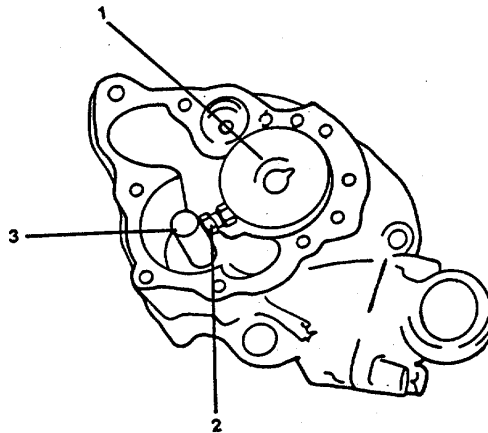

FIGURE 3-49. *Install the Guide Bushing into the Gear Pocket.*
- a. Check idler shaft (22) for damage. Replace if damaged.
- b. Check dowel pins (8) in the pump body (31) for damage. Use dowel puller P/N ST-1134 to remove damaged pins.
- c. Check drive shaft (30) for damage.
- e. Check pump body (31) for cracks, worn bushing threads or scratched gasket surfaces.
- f. Use bushing mandrel, P/N ST-1158, and push bushings (24, 28) from pump body (31), cover (23) and gears (25, 27 and 34).
- g. Use bushing mandrel, P/N ST-1158, to push new bushings (24, 28) into body (31), cover (23) or gears (25, 27 and 34). Bushings must be even with or 0.020 inch (0.51 mm) below surface of body (31), cover (23) or gears (25, 27 and 34).
- h. Use lubricating oil pump boring tool to cut the bore in the new bushings in the pump body (31).
- (1) Install the guide bushing (1, Figure 3-49) into the gear pocket. Tighten the capscrew (2) against the side of the gear pocket to hold the guide bushing in position.